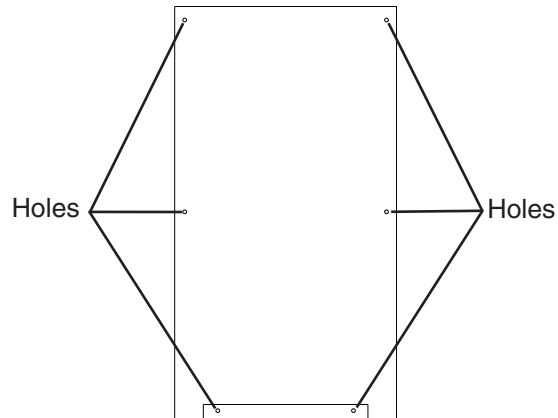

Fig. 9
- 2) Drill six 1/4" diameter (hardwood may require slightly larger diameter) holes 3/8" (10 mm) deep in the locations designated. **NOTICE! Use care when drilling holes for mounting hardware. All drilled holes must be straight and drilled to the correct diameter and depth.** See "(A) Threaded Inserts" and "(B) Threaded Inserts" in the specification diagram and Fig. 9.